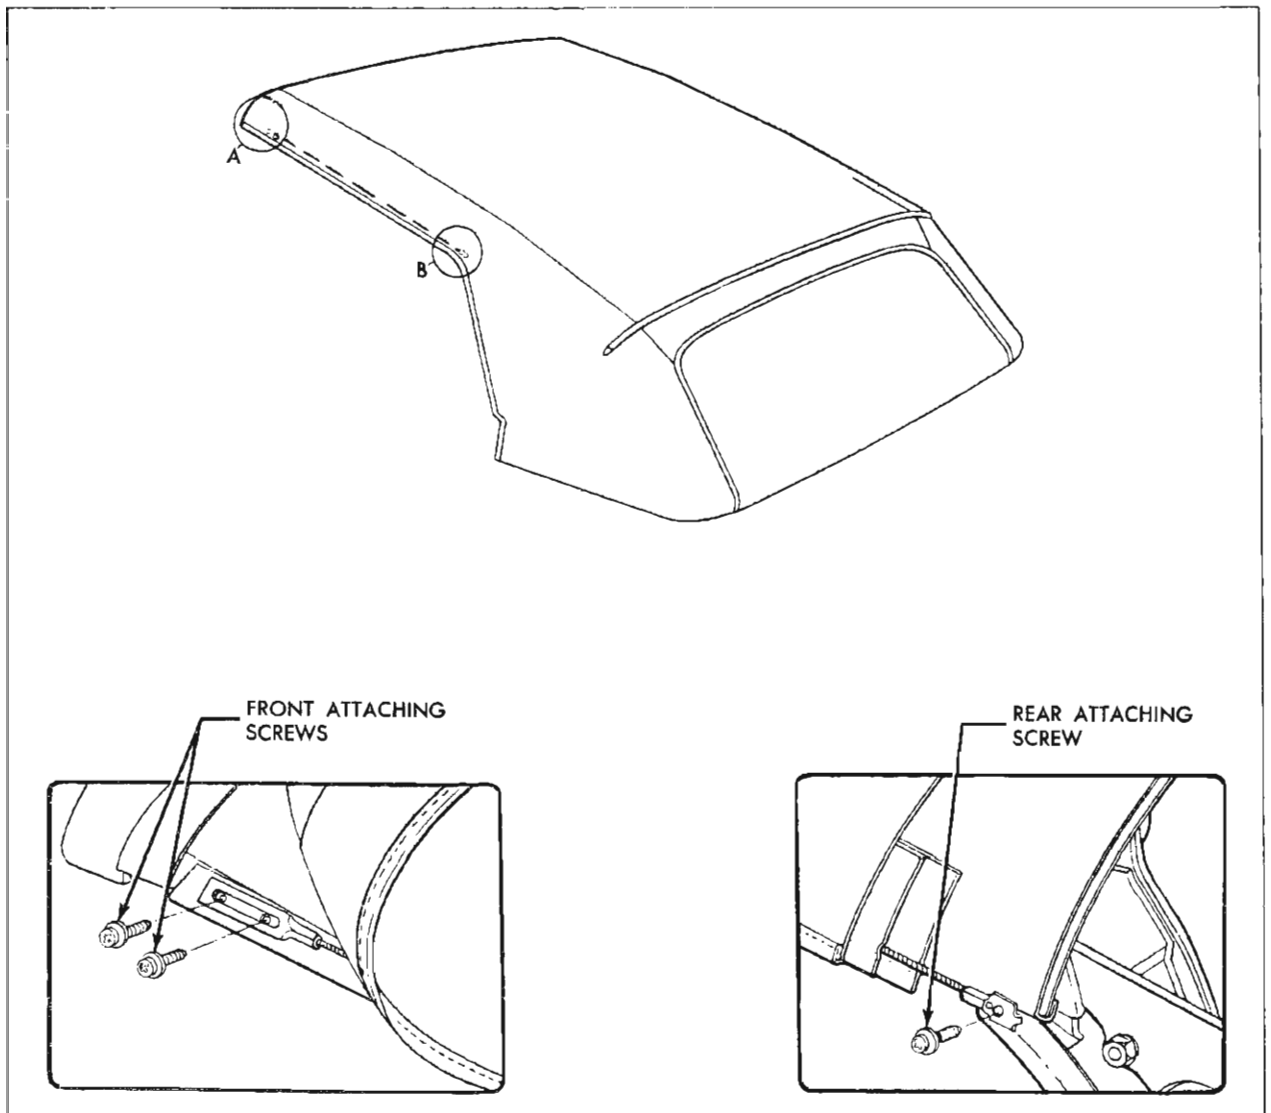

Fig. 21-30 Hold Down Cable Attaching Screws
5. At right and left side roof front and rear rails, remove hold-down cable front and rear attaching screws. (See views "A" and "B" in Fig. 21-30).